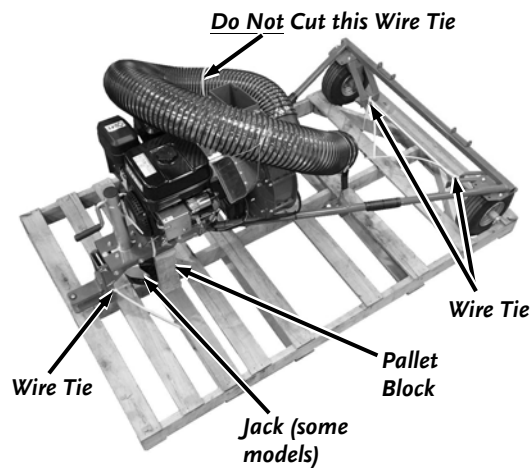

Figure 5
9. Cut the Wire ties holding the Machine to the Pallet and roll the Machine from the Pallet (Figure 5).